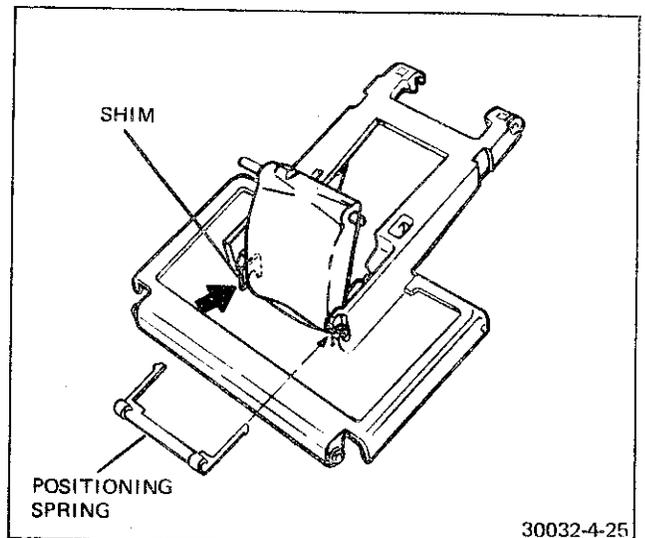

FIGURE 4-25 ORIENTATION OF SHIM AND POSITIONING SPRING
- f. If the spring is in good condition, install the spring on the replacement concave mirror housing. See Figure 4-25.
- g. The mirror housing has two short studs on one side and two long studs on the other. Note that the flat side of the studs line up with the slots in the housing. Refer to Figure 4-25. Insert the lower short stud into its slot on the left side of the short cover.